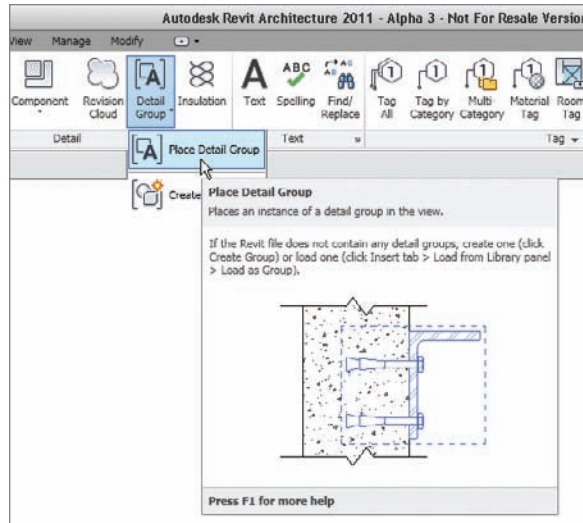

FIGURE 12.74 Choose Place Detail Group.
2. On the Annotate tab, click Detail Group > Place Detail Group, as shown in Figure 12.74.